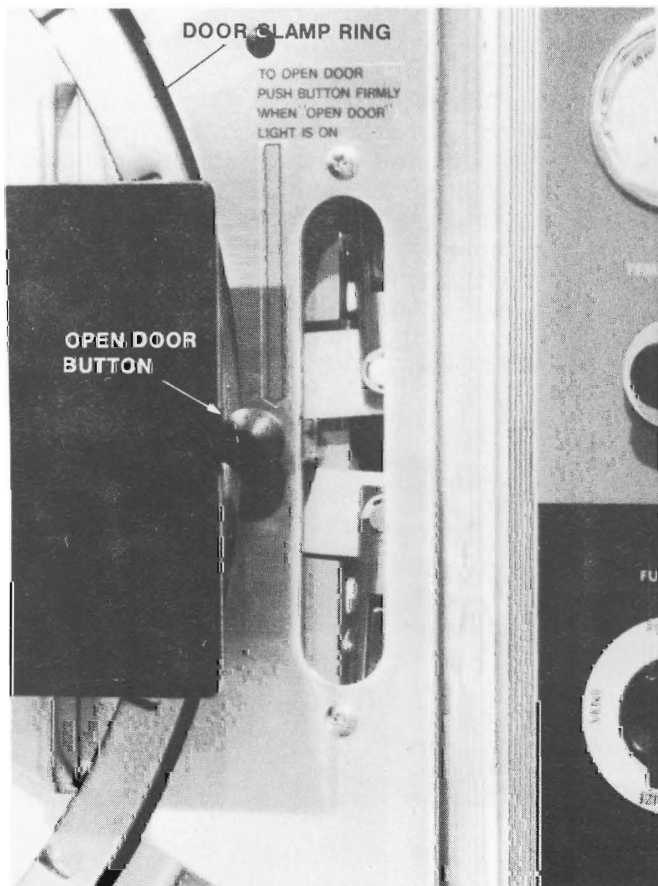

FIGURE 1 — DOOR CLAMP RING AND OPEN DOOR BUTTON
1.02 **Door Clamp Ring** (Figure 1) - A patented door clamp ring provides maximum safety by locking the **entire** rim of door. When activated by the door handle, the door clamp ring expands in diameter, thus, allowing the door to open.
1.03 **Open Door Button** (Figure 1) - The open door button energizes the door interlock solenoid. It must be depressed before moving the door handle up into the open position. The button is operative only when the **Open Door** light is illuminated.